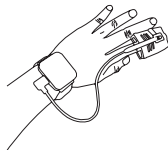

Fig.3-4
❷ Place the patient's finger inside the sensor as shown in **Fig.3-4**.